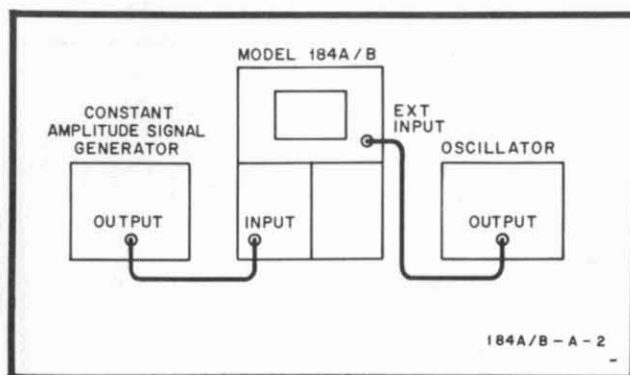

Figure 5-11. Write-in-store Adjustment
- b. Connect constant amplitude signal generator 50-kHz sine wave output to vertical amplifier input (figure 5-11).